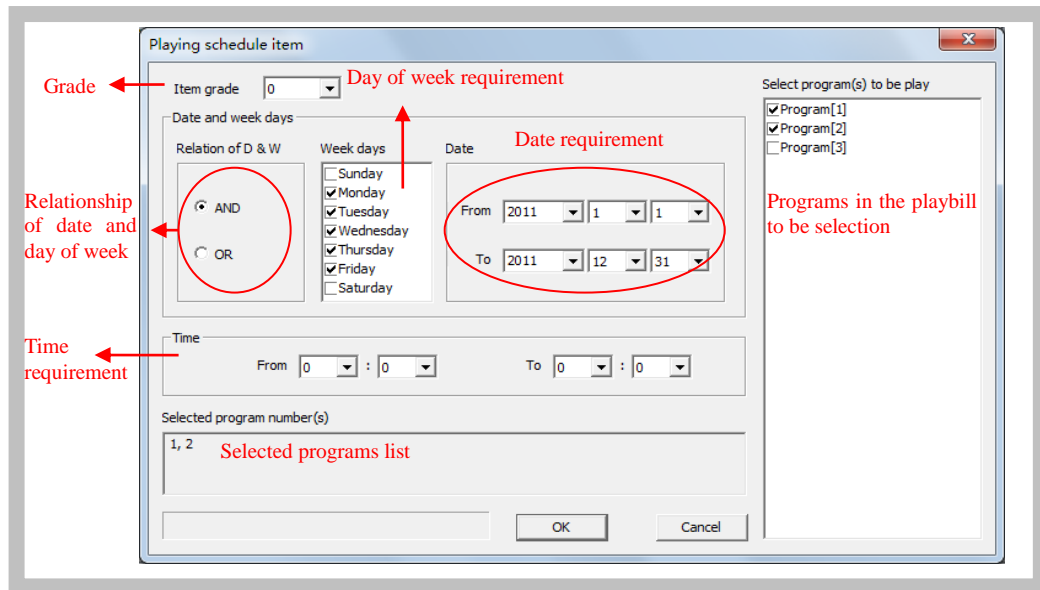

Figure42 Edit a playing schedule
- 2) Click “Add” button, or select an old schedule and click “Edit” button, the “Play schedule item” dialog box pops up, as Figure42 shown.